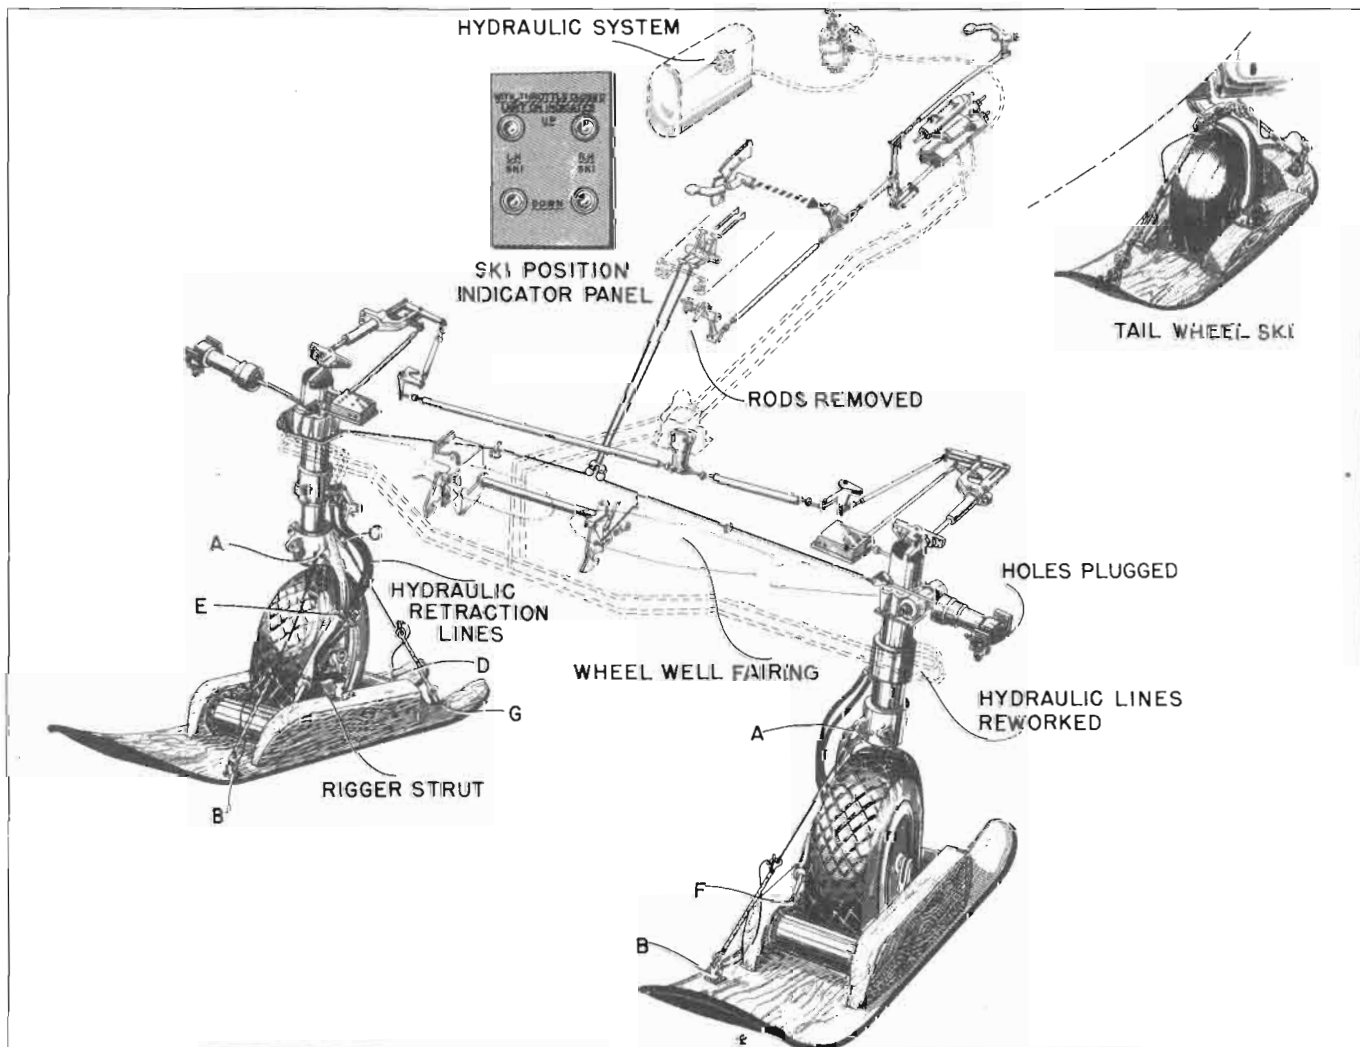

Figure 391 — Landing Gear Ski Installation Diagram
b. MAIN LANDING GEAR SKI INSTALLATION.—(See figure 391.)—The main landing gear skis are at-
—(See figures 391 and 394.)—The tail wheel landing ski is attached by means of an auxiliary spindle extending out both ends of the tail wheel axle shaft into mating fittings on the skis. The wheel in this installation is in